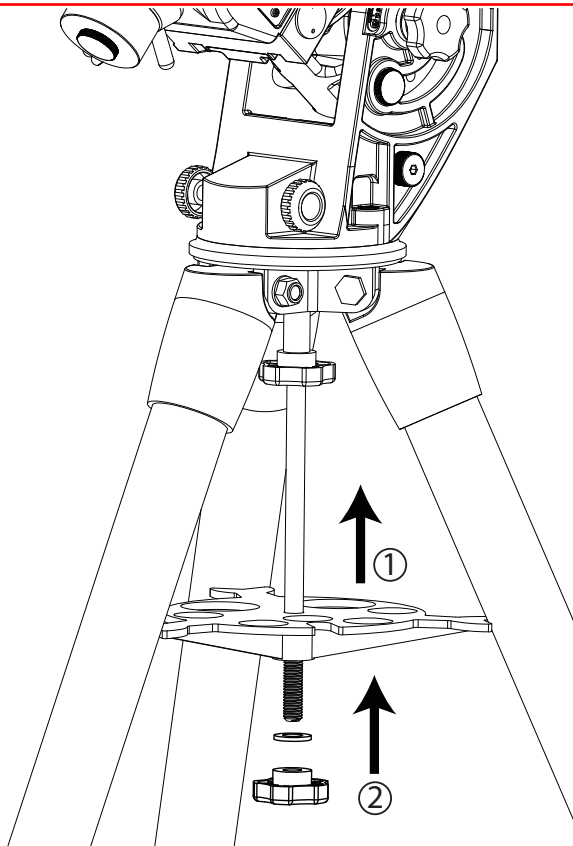

Fig. 1.3a
1. Slide the accessory tray along the primary locking shaft until its three tips push against the tripod legs, and then secure the tray with the washer and the locking knob. (Fig. 1.3a)